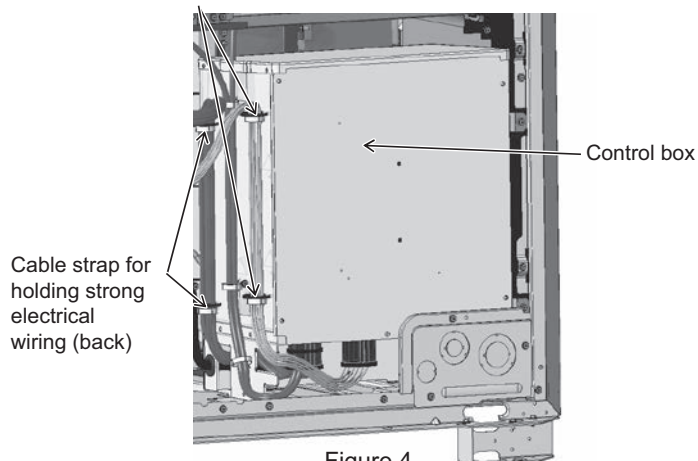

Figure 4
- (7) Remove the two cable straps holding the weak electrical wiring and the two cable straps holding the strong electrical wiring from the control box. (See Figure 4.)